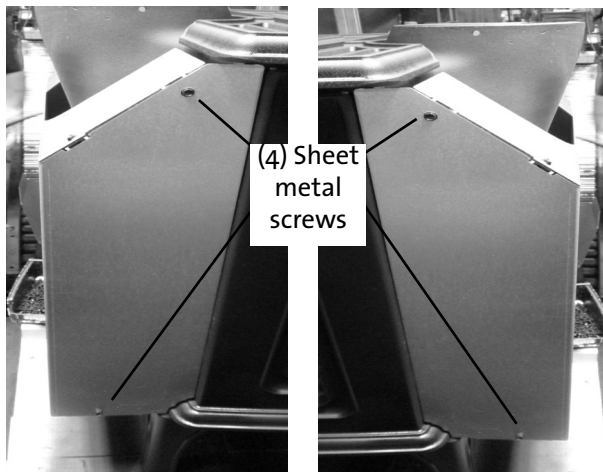

Figure 30. Remove (4) screws from rear shroud
3. Use a drill with a 1/4" hex socket bit to remove (4) sheet metal screws connecting rear shroud to stove. See fig. 30.